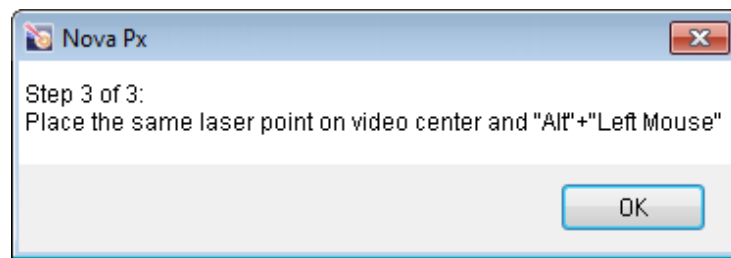

Fig. 7-16
12. Define position of the laser spot in the videoimage again by clicking on a relevant location with the <Alt> key being pressed. A cross-hair marker will appear at the center of the videoimage. As well, a request on moving the laser for centering the laser spot will appear (Fig. 7-16), close this box by clicking the **OK** button.